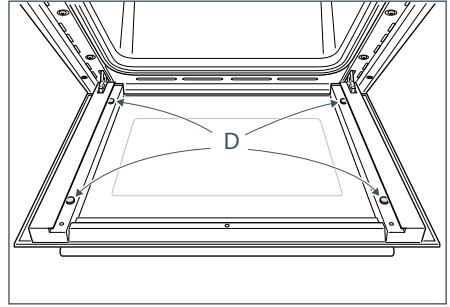

Fig.61a
- Check that the four rubber pads are in place ("D" in Fig. 61a).